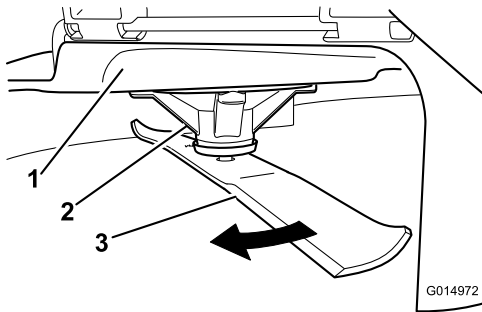

Figure 72
2. While wearing thickly padded gloves, or other adequate hand protection, slowly rotate the blade into a position that allows you to measure the distance between the cutting edge and the level surface the machine is on (Figure 72).